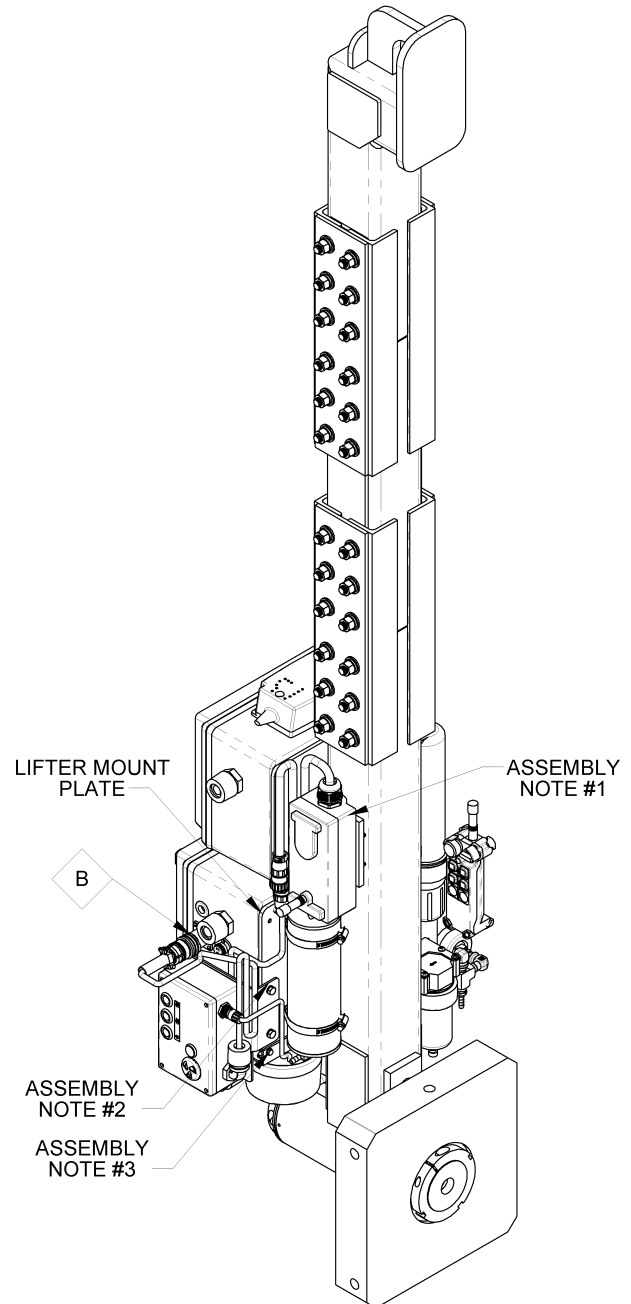

Figure 1
- 1) Mount the radio receiver on the existing pendant bracket, as indicated in Figures 1 and 2. Note: See Figure 1 for proper location of the radio receiver.
- 2) Mount the control enclosure assembly by its mounting bracket using a 7/16" wrench and fasteners supplied, as indicated in Figures 1 and 2. Note: Older lifters may not have predrilled holes on the lifter mount plate, where indicated; if not, contact Wood's Powr-Grip for more information.
- 3) Mount the strobe light by its mounting bracket using a 5/16" wrench and the 10-16 x 1/2" self-tapping screws supplied, as indicated in Figures 1 and 2. Note: Again, older lifters may not have predrilled holes on the lifter mount plate, where indicated; if not, contact Wood's Powr-Grip for more information.
- 6) Connect the electrical connector between the control enclosure assembly and the appropriate receptacle on the power system enclosure, as indicated by Tag B in Figures 1 and 2.